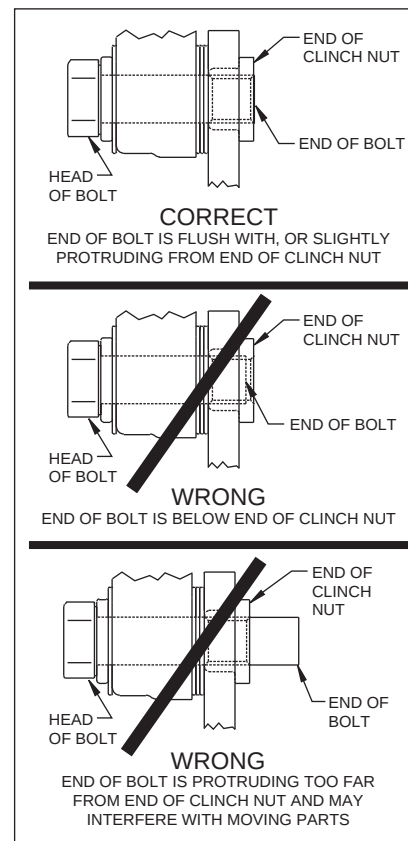

Figure 3.
- Install the dust cap (16) onto the hub (7). Friction created by the o-ring (17) on the dust cap (16) keeps it from unscrewing. The O.D. of the existing spindle washer may be larger than the I.D. of the dust cap (16) which may allow the washer to contact the dust cap (16). Use the spindle washer (15) supplied with the kit instead of the stock washer.
•**NOTE:** Please reference the caution statement at the beginning of the assembly instructions. This kit contains distinct right and left hand calipers that must be mounted in a specific direction, as described below. Mount the caliper (18) onto the caliper bracket (1) using two bolts (20), two washers (19) and four flat washers (21). Finger tighten. Ensure that the caliper is mounted so that the largest pistons are at the rotor exit end of the caliper, in relation to the direction of rotor rotation. View the rotor (11) through the top of the caliper (18). The rotor (11) should be aligned in the center of the caliper (18). If not, loosen the two bolts (20) and adjust the caliper (18) by using 0.032 inch thick shim washers (22). The shim washers (22) should be placed between the caliper (18) and the flat washers (21). Finger tighten and recheck alignment. Add as many shim washers (22) as necessary to achieve the correct alignment. **NOTE:** The end of the bolt must be flush with or slightly protruding from the head of the clinch nut. See Figure 3. Place spare shims (22) between washer and caliper mounting ear to achieve the proper mounting fastener configuration. Always use the same amount of shims on both the top and bottom caliper mounting bolts (20). Loosen the two bolts (20) and apply red Loctite® 271 to bolt threads (20) and torque to 40 ft-lb.
- Install the disc brake pads (23) and secure using the pad clip retainer (24).